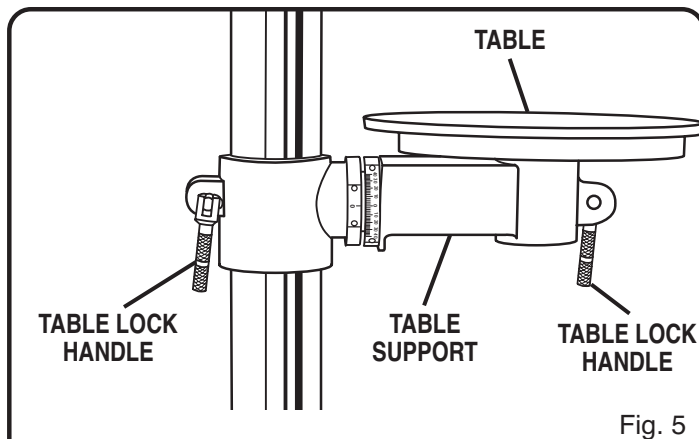

Fig. 5
- Place the table in the table support. Tighten by turning the table lock handle clockwise. See Figure 5.